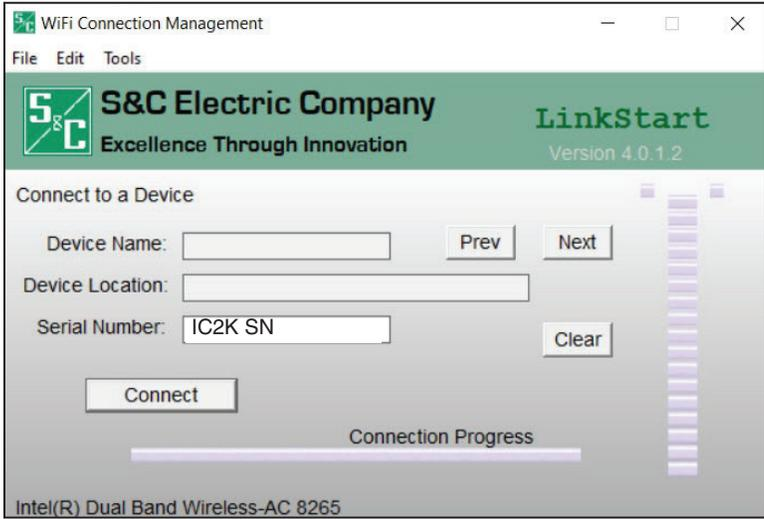

Figure 1. The *LinkStart Main* screen.
STEP 1. In the Windows® 10 or later **Start** menu select *Start>Programs>S&C Electric>LinkStart>LinkStart V4*. The *LinkStart Main* screen will open. See Figure 1.
STEP 2. Enter the serial number of the IntelliCap 2000 Automatic Capacitor Control and click on the **Connect** button. See Figure 1.